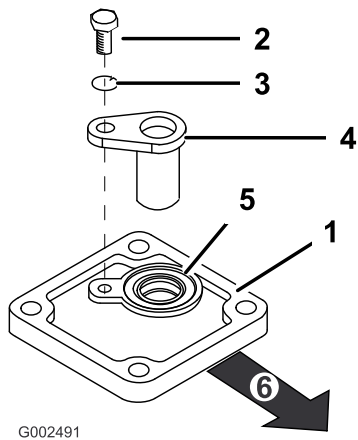

Figure 6
4. Install the new cover assembly to the transaxle using the four bolts removed in Step 1 (Figure 6). The correct orientation of the cover will have the seal facing up and positioned toward the left hand side of the vehicle.
5. Install the geartooth sensor using the screw (M6 x 1.00 x 12) and spring washer (M6) as shown in Figure 6.